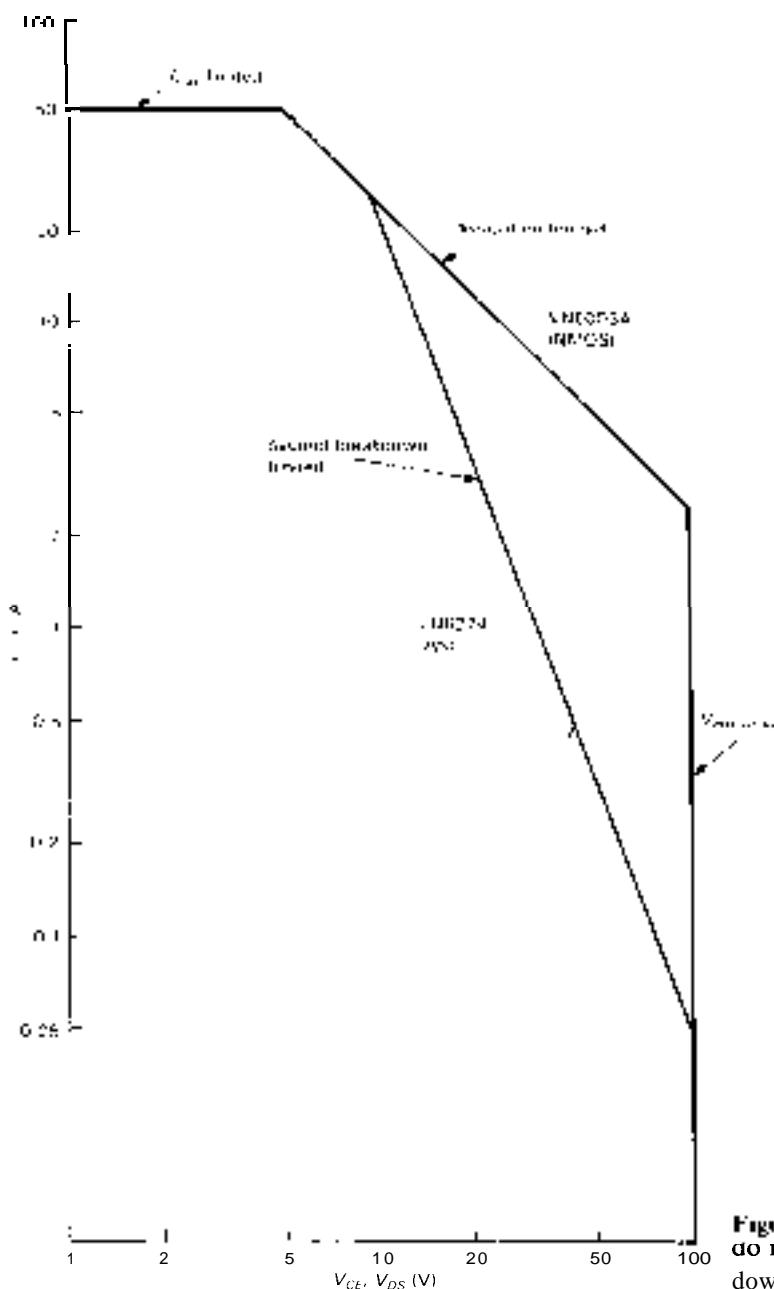

Figure 3.66. Power MOSFETs do not suffer from second breakdown.
these junction hot spots entirely. MOSFETs have no second breakdown, and their safe operating area (SOA) is limited only by power dissipation (see Fig. 3.66, where we've compared the SOAs of an *n*p*n* and an NMOS power transistor of the same  $I_{max}$ ,  $V_{max}$ , and  $P_{diss}$ ). For the same reason, MOSFET power amplifiers don't have the nasty runaway tendencies that we've all grown to love in bipolar transistors (see Section 2.15), and as an added bonus, power MOSFETs can be paralleled without the current-equalizing "emitter-ballasting" resistors that are necessary with bipolar transistors (see Section 6.07).
- **MOSFETs versus BJTs as high-current switches.** Power MOSFETs are attractive alternatives to conventional power BJTs most of the time. They currently cost somewhat more, for the same capability; but they're simpler to drive, and they don't suffer from second breakdown and consequently reduced safe-operating-area (SOA) constraints (Fig. 3.66).